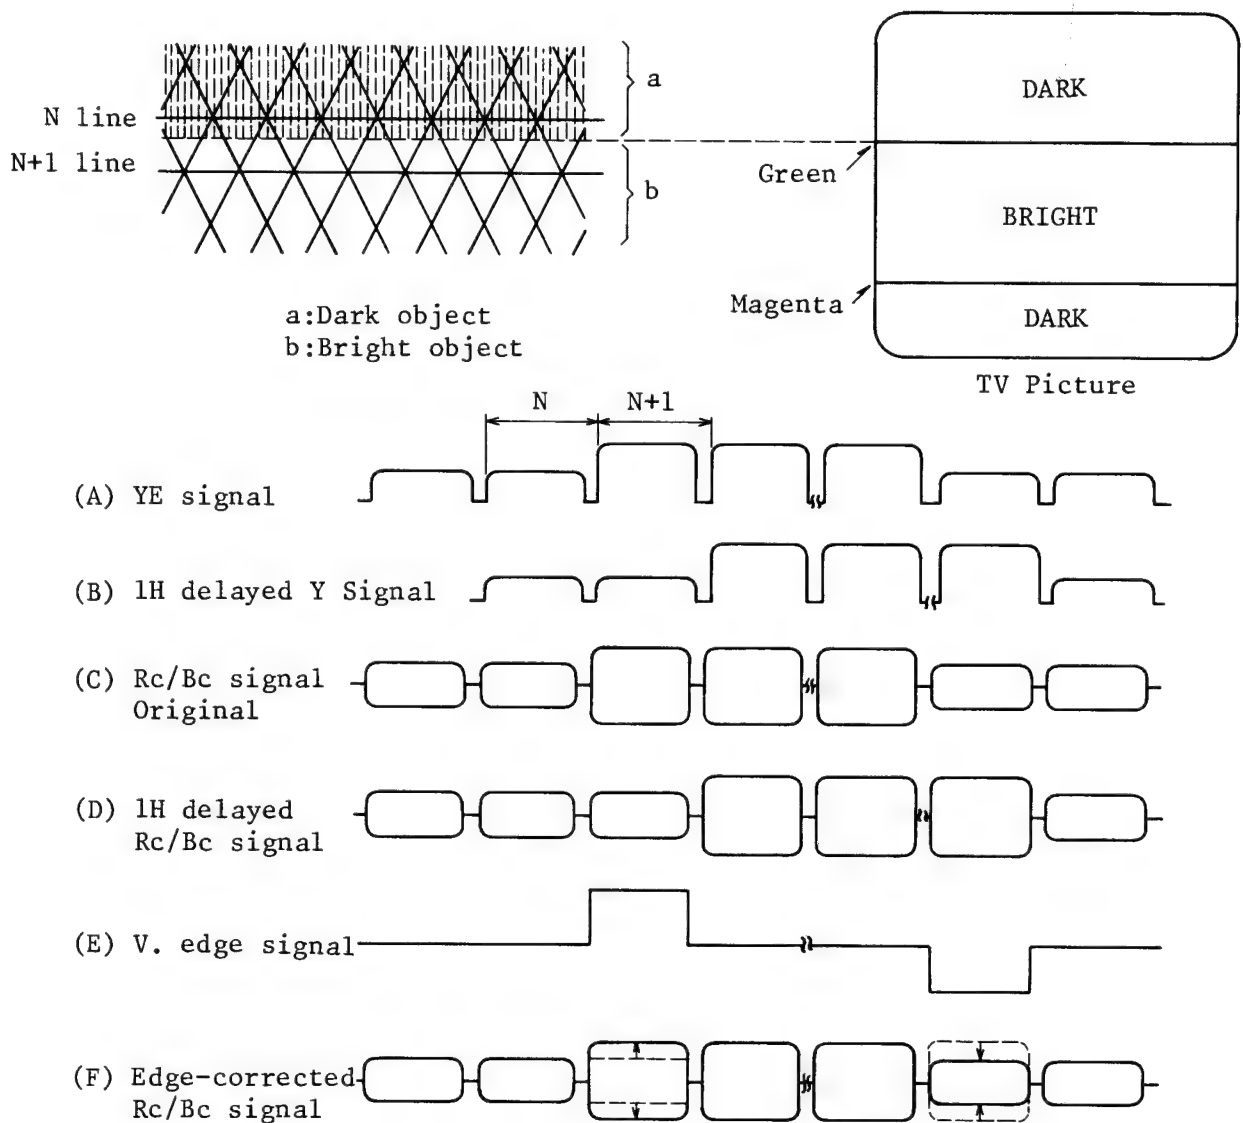

Fig. 19. Color Correction
When the camera views a dark-to-bright, or bright-to-dark transition as shown in Fig. 19, the undelayed Rc/Bc signal appears as in Fig. 19 (C), and the Rc/Bc signal delayed one line (1H) appears as in (D). When we make the transition from dark to bright the Rc/Bc (C) and (D) signals are not of equal level on the  $N + 1$  line and an error signal (green) is created along the vertical edge of the transition.